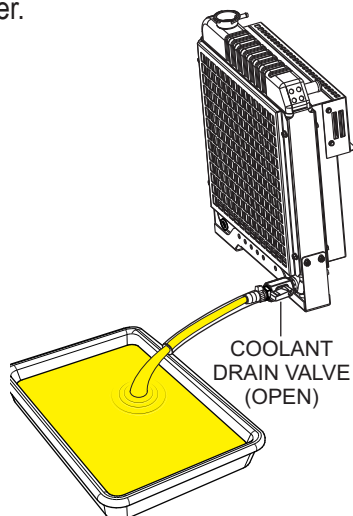

Figure 69. Draining Engine Coolant
- Place the **coolant drain valve** in the **OPEN** position (Figure 69) and allow the coolant to drain into a suitable container.